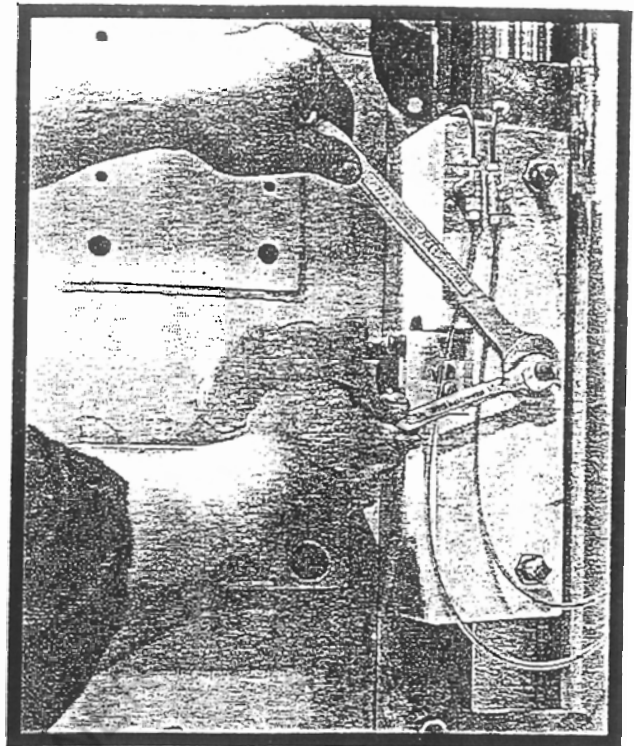

FIGURE 8
4. From the front of the machine, adjust front gib by inserting a .004" feeler gauge between the machined ram surface and the front gib surface (See Figure 8).